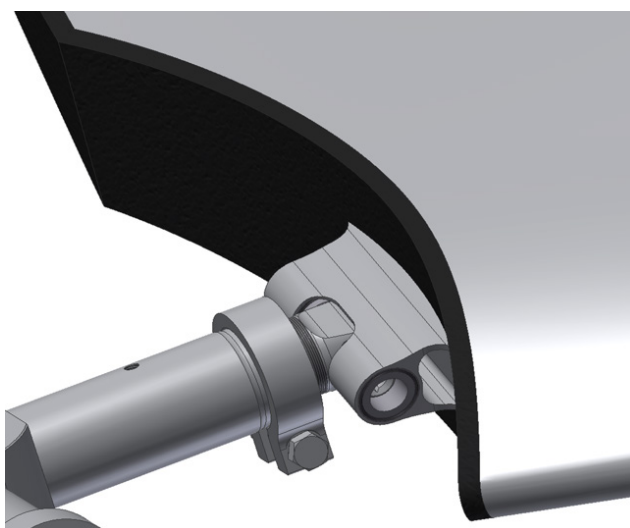

Figure 3
- 5—Install the other blades. See **Figure 3** for completed blade connection. All bolts should be tightened to values provided in **Table 1**. If blades are installed properly, they will return to their undisturbed position if the tips are pressed in the axial direction with moderate force (5 to 10 kg).